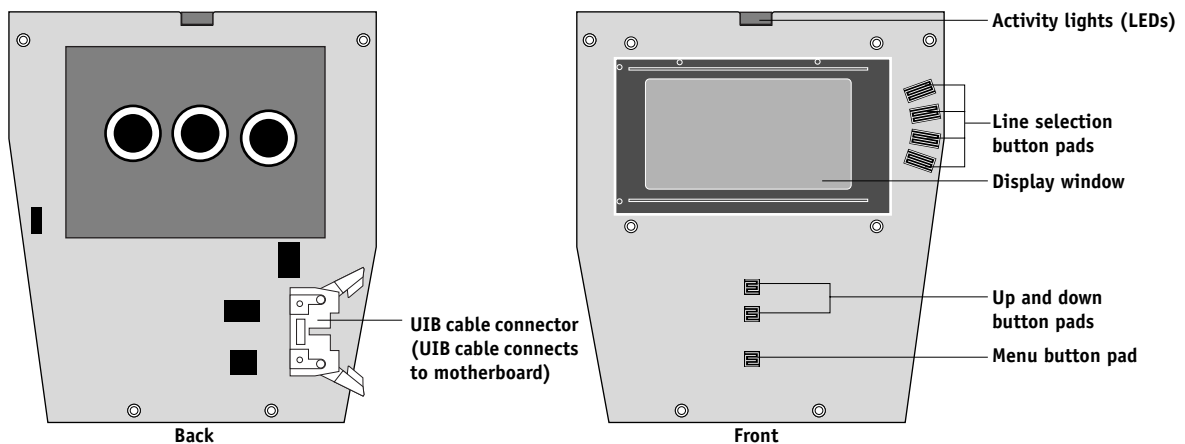

FIGURE 4-10 User interface board layout
The UIB installed in the front panel of the iR-M1 (see Figure 4-10) provides the interface between the iR-M1 and the user. The front of the user interface board contains circuitry for the following:
4. Disconnect the UIB cable from the cable connector on the back of the UIB (see Figure 4-10 on page 4-13).